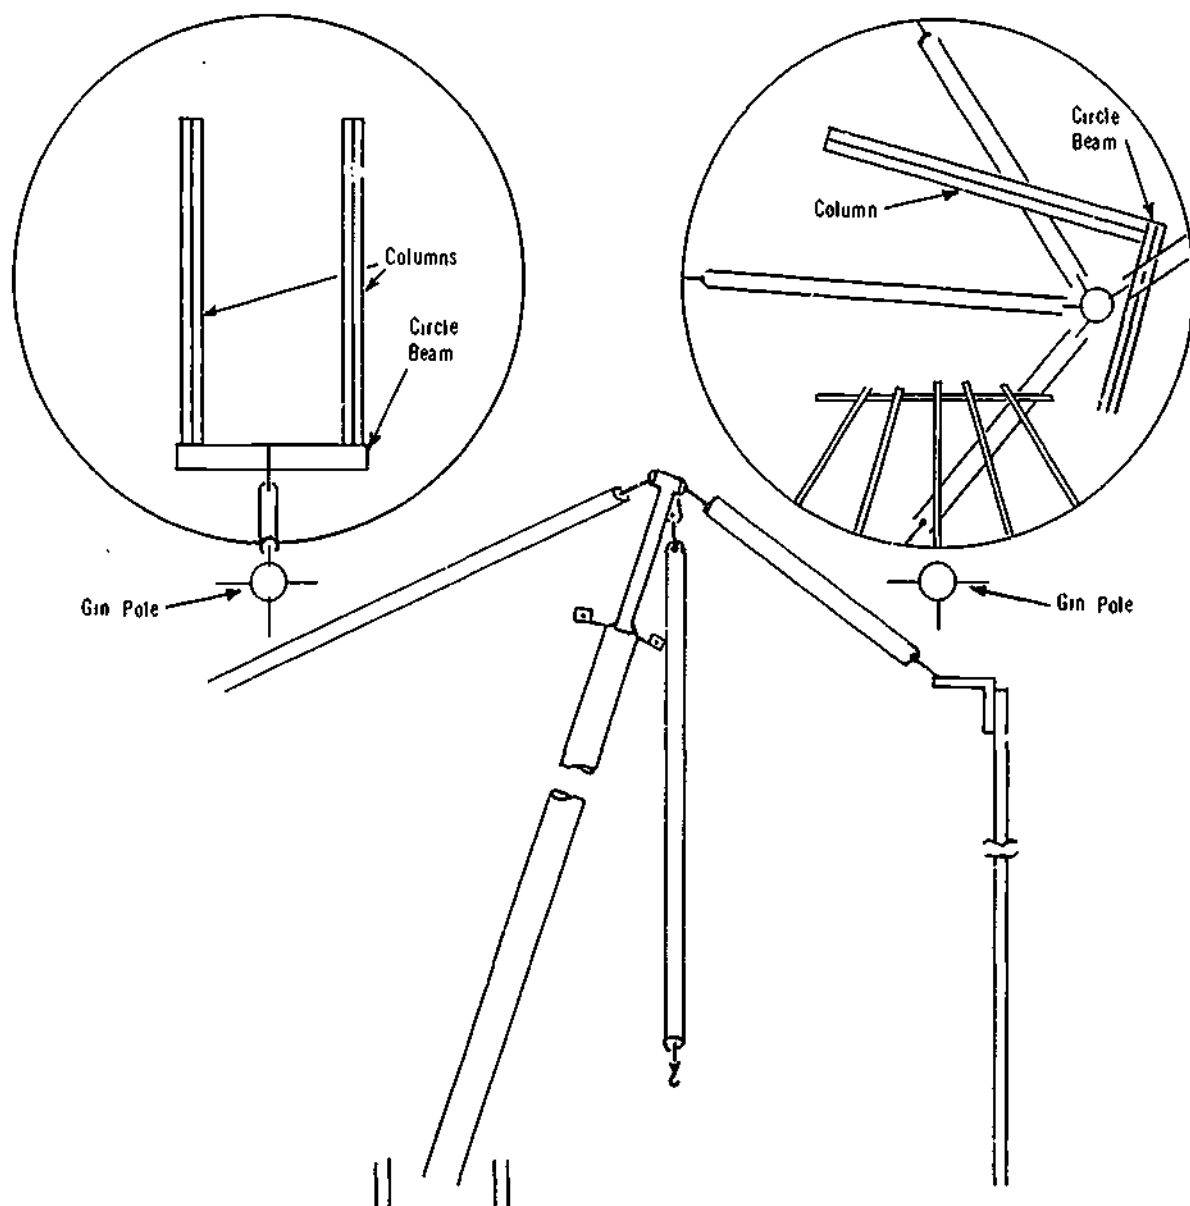

Figure 12-24. Circle Beam Erection Using Centre Pole as Lifting Device
- Step 1. Assemble two columns and their adjoining circle beam (first support unit) on the bottom of the tank. Ensure that the circle beam is close to the shell, as the unit is to be raised by the gin pole which, for this method, is located outside but near the tank shell (Figure 12-24).